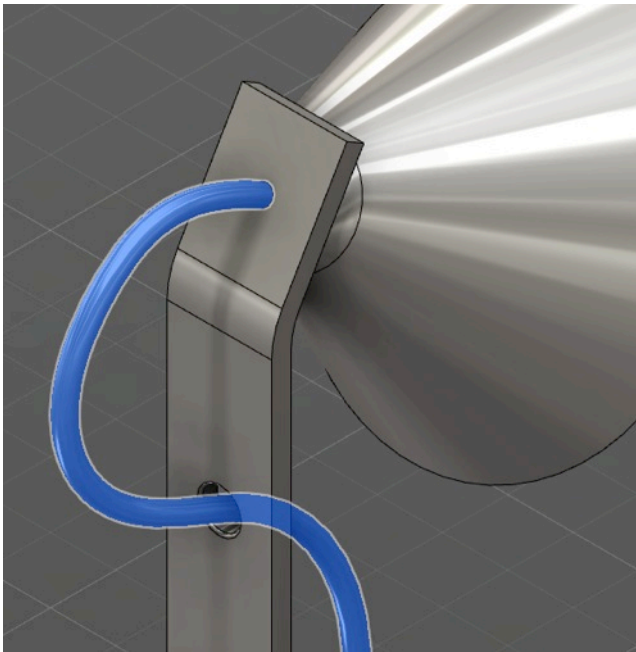

Fig. L19
22. Go to Create>Sweep and create a sweep that uses the circle as profile and the spline as path (Fig.L19).